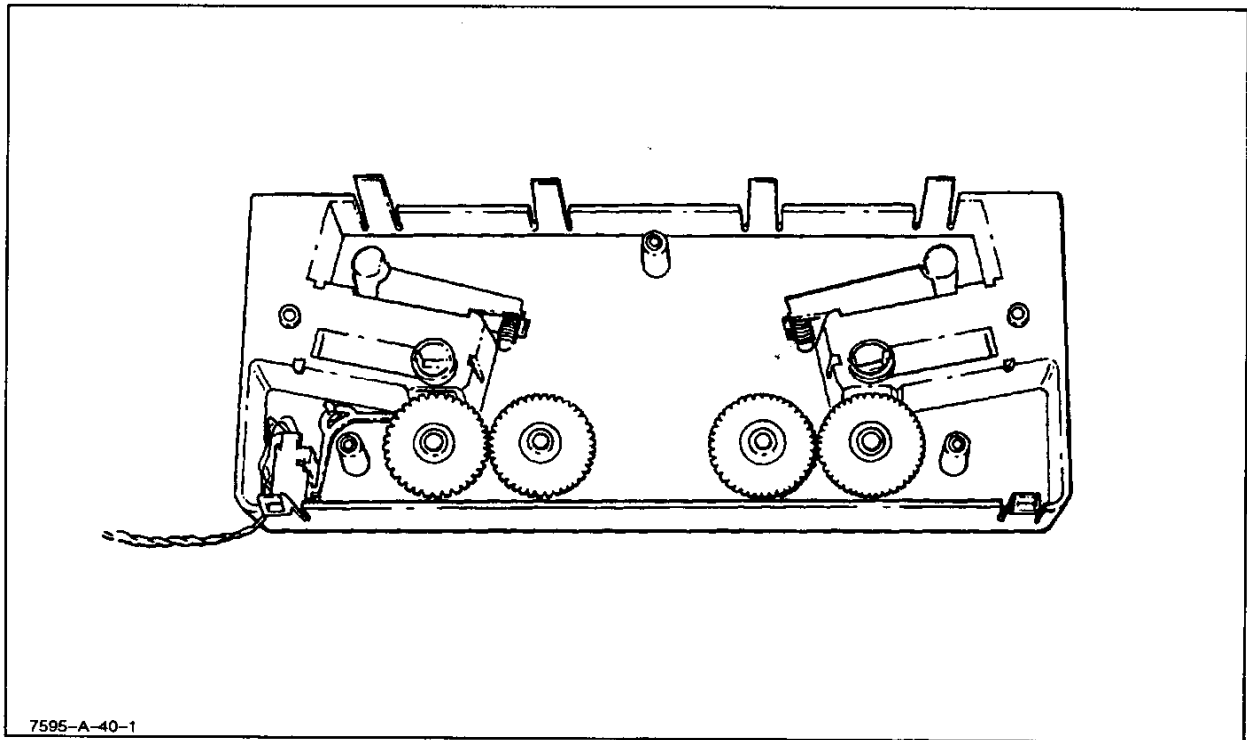

Figure 6-40. Drive Module Disassembly
- h. Remove the gear cover with the take-up motor attached. All interior parts of the drive module are now accessible. See Figure 6-40 for proper placement of parts.